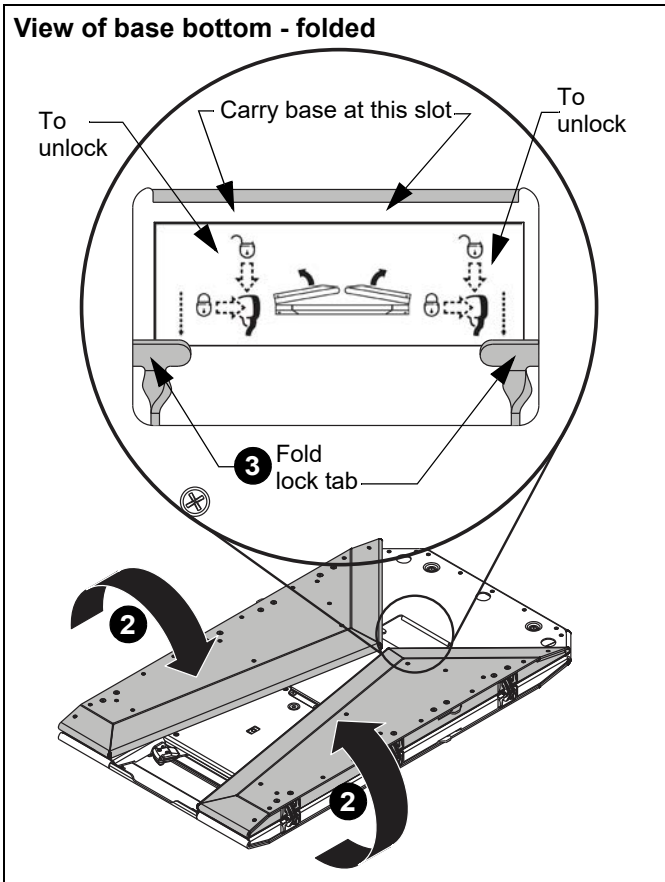

Figure 17
2. Fold up sides of the base, being careful to keep fingers from between sides and center base. (See Figure 17)
3. Push straight in on each of the fold lock tabs to lock each side of the base in the folded position. (See Figure 17)
**NOTE:** Carry the base by using the slot on the bottom of the base. (See Figure 17)
**NOTE: TO UNLOCK FROM FOLDED POSITION -** Push straight down (or toward back of base) on both fold lock tabs to unlock the sides of the base and allow them to be opened to the flat base position. (See Figure 17)